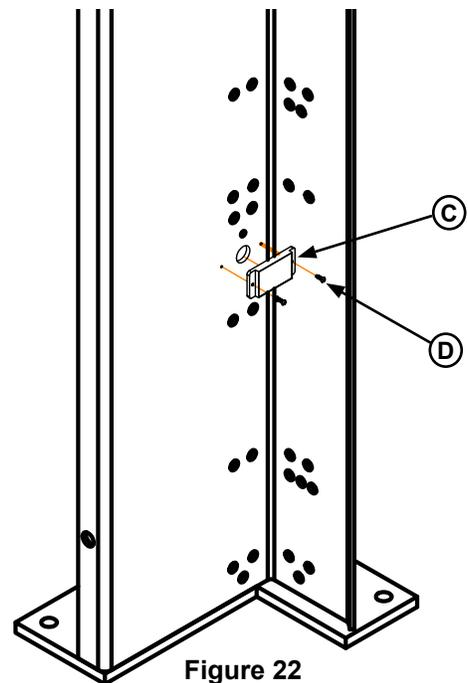

Figure 22
13. Drill the holes and secure the reflector using the self-drilling screws. See **Figure 22**.
2. Install the reflector on the track guard across from the sensor using the two pre-drilled holes and self-drilling screws. See **Figure 22**.